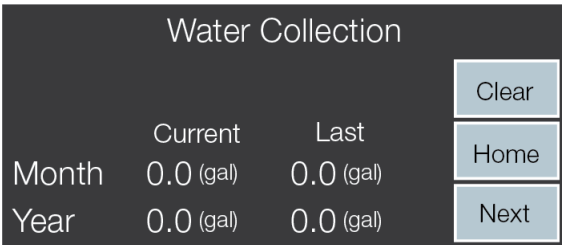

Figure 14. Water Collection (Month/Year) Screen
- Current and Last Month accumulation, Current and Last Year accumulation (see Figure 14).